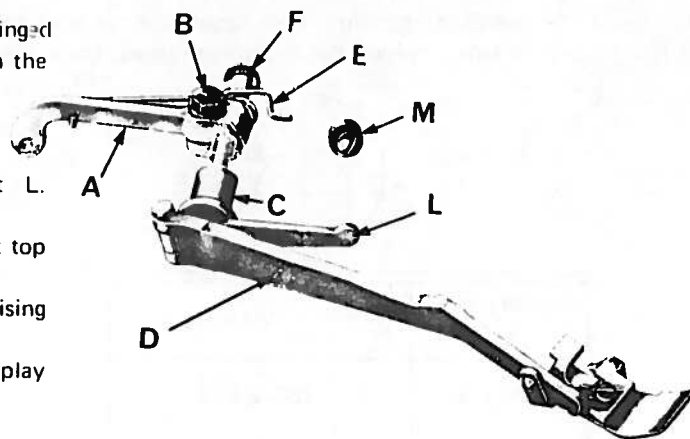

fig. 16
e) Locking and adjusting presserfoot lever (fig. 16).